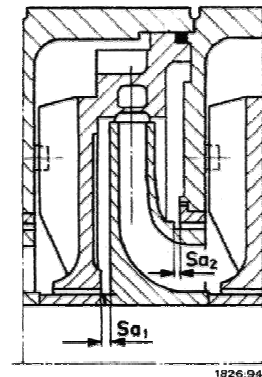

Figure 36 – Total axial clearance
6. Insert the diffuser (171.1) in the stage casing (108). Mount the stage casing on the suction casing (106). Mount the stage casings in the correct sequence.
8. After mounting each stage check the overall axial clearance $Sa_1 + Sa_2$ of the impeller (min. 5 mm) (Fig. 36).